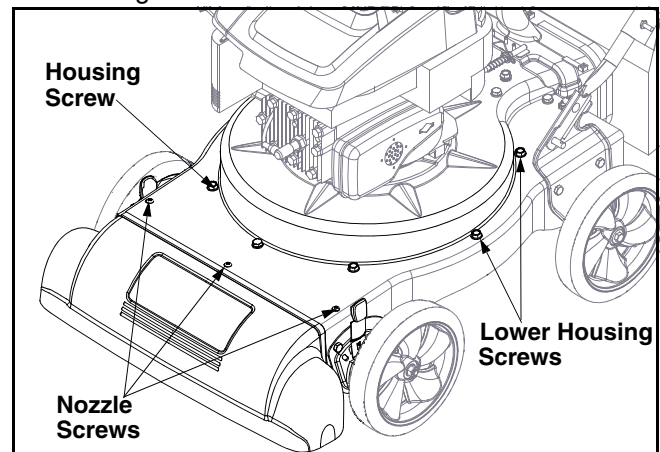

Figure 12
- Remove the three screws on the upper housing that secure the nozzle cover and the nine screws that secure the lower housing to the upper housing. See Figure 12.